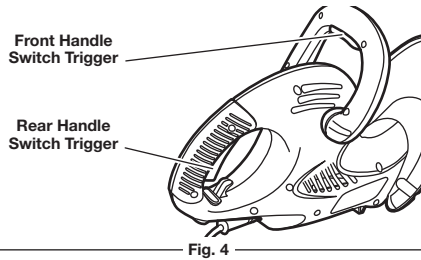

Fig. 4
2. Hold the front handle with one hand and squeeze the front handle switch trigger (Fig. 4).
3. Hold the rear handle with the other hand and squeeze the rear handle switch trigger (Fig. 4). The unit should start immediately.